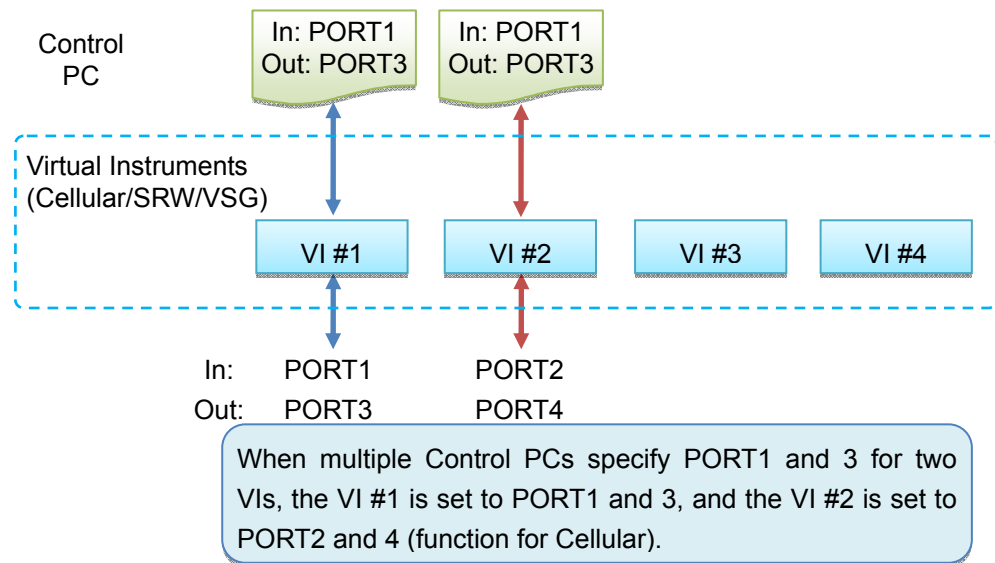

Figure 2.5-4 PORT1 and PORT3 Specification in Fixed Mode
*1: When PORT1 is specified for input and PORT3 for output, the VI #1 uses PORT1 for input and PORT3 for output, and the VI #2 uses PORT2 for input and PORT4 for output.(Refer to Figure 2.5-4)